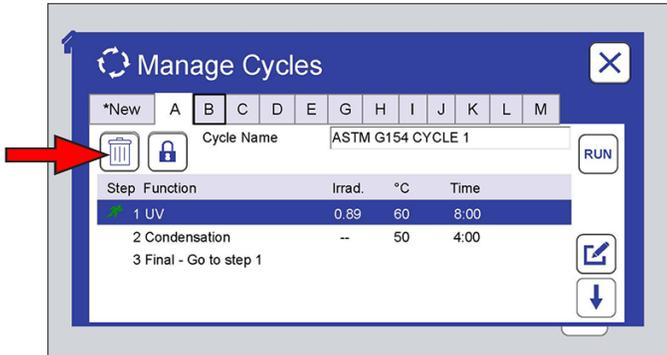
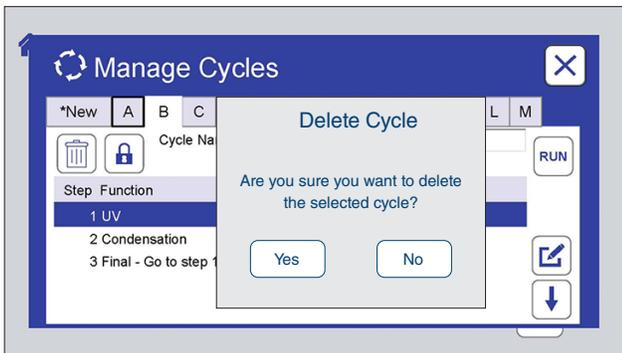

Figure 11.7.2a: Touch the delete icon to delete the selected cycle.
Figure 11.7.2c: To delete an inactive cycle, the operator is prompted for verification. Touch No to cancel delete. Touch Yes to create a blank cycle.
- Delete a cycle (Figure 11.7.2a through Figure 11.7.2c).